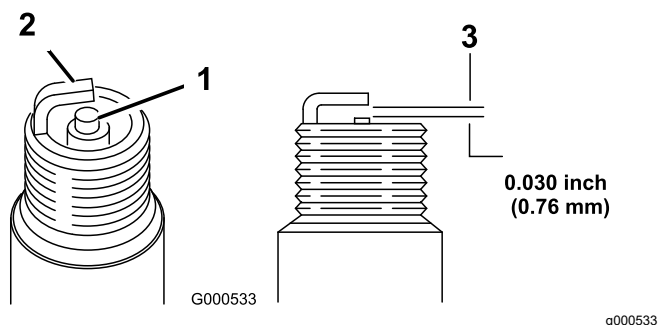

Figure 26
8. Use your finger to coat the gasket on the new oil filter with oil (Figure 26).
5. Set the gap on the plug to 0.76 mm (0.030 inch); refer to Figure 26.